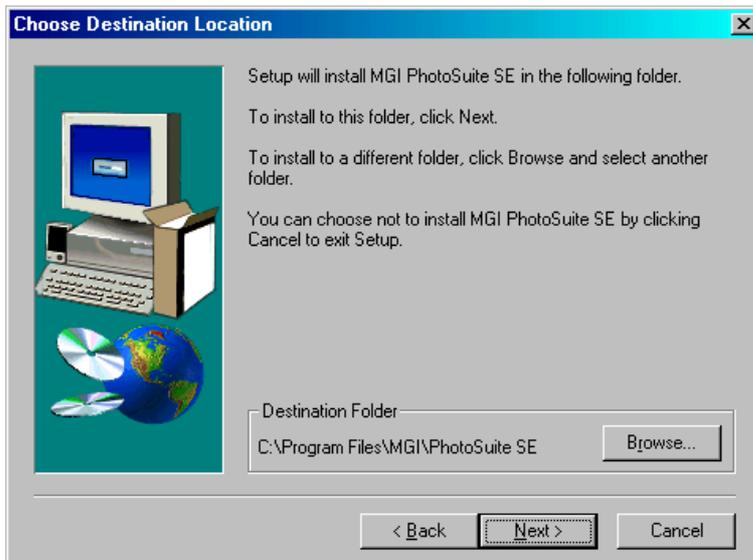

Figure 10: Installing MGI PhotoSuite SE
5. Click on 'Yes' to accept the license agreement and continue with the installation. Figure 10 will appear.